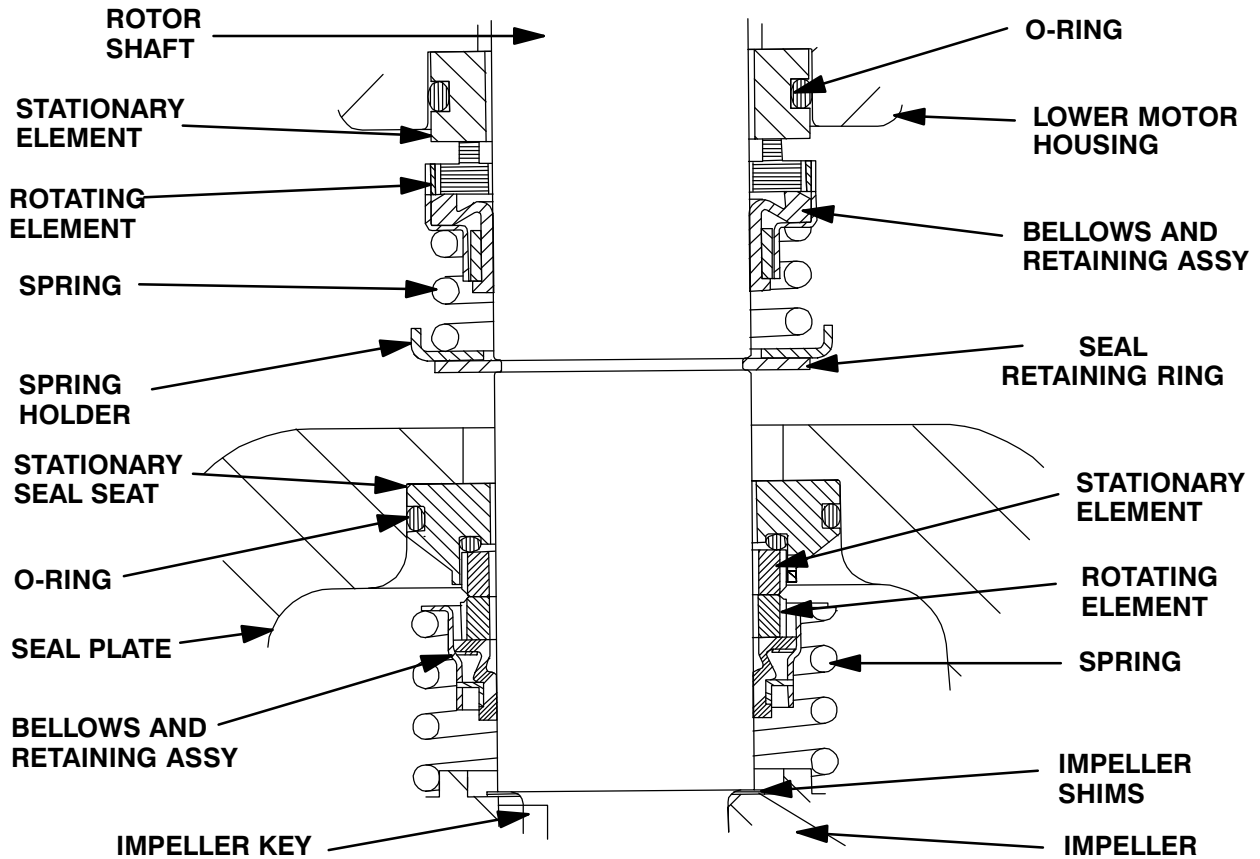

Figure 3. Upper And Lower Seal Assemblies
Install the shaft seals as illustrated in Figure 3.
Slide the seal spring over the shaft and bellows retainer, and install the spring holder (18). Install the seal retaining ring (17). See Figure 3 for the proper order of seal assembly.
Slide the seal spring over the shaft and bellows retainer. See Figure 3 for proper order of seal assembly.